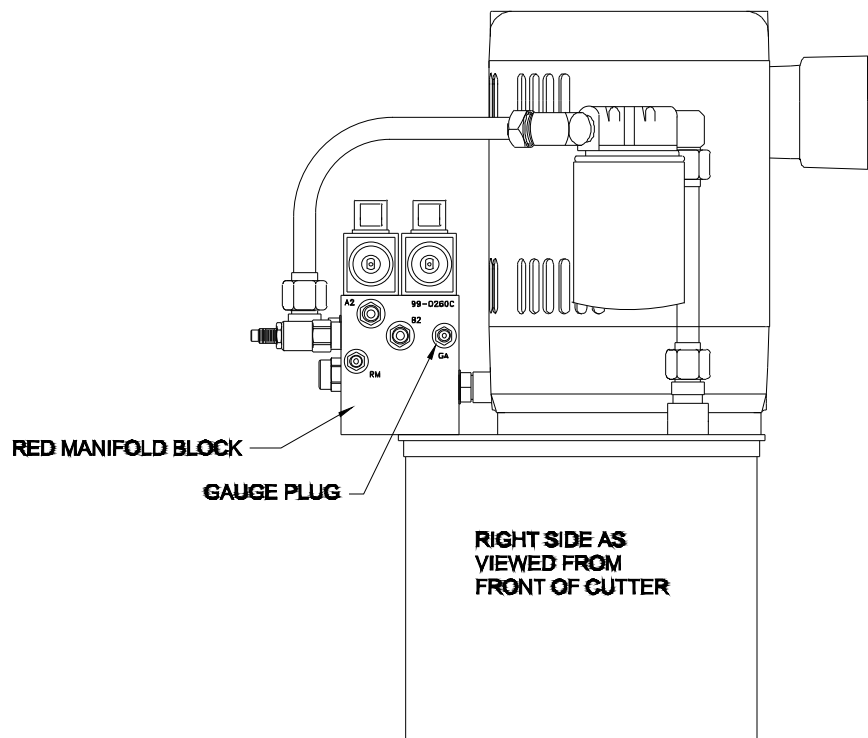

Fig 55
1. Remove the “Gauge Plug” on the side of the “Red Manifold Block”. Fig. 55. Install the gauge kit (PC-S-0802) into the “Red Manifold Block”.
18. Remove the gauge kit and install the “Gauge Plug” into the “Red Manifold Block”. Fig. 55.